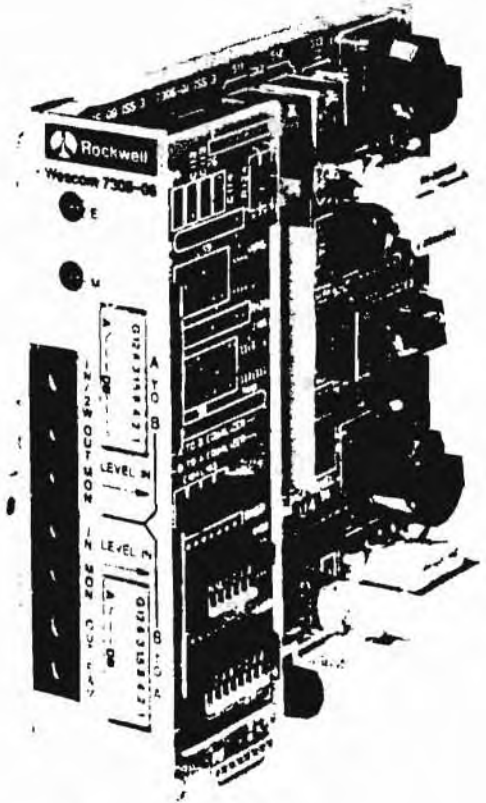

Figure 1. 7306-06 DX1/DX2 4/2-4 Terminal Repeater
1.01 The Wescom 7306-06 DX1/DX2 4/2-4 Terminal Repeater is a 400-type plug-in Combined Function Module that combines the functions of a 4-wire to 4-wire or 2-wire terminal repeater and a DX to E&M signaling unit. The 7306-06 is shown in Figure 1. (Excerpts from this Practice, covering installation and testing only, is available in Section 730-606-303.)